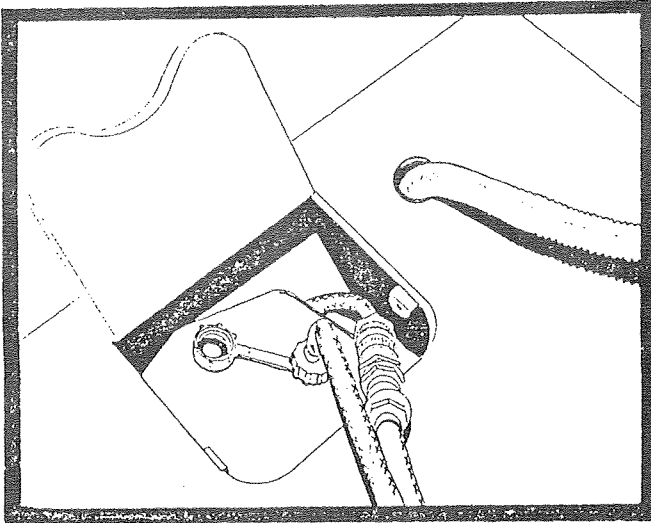

**FIGURE 20**
32. Refer to Figure 20 for utility line identification: